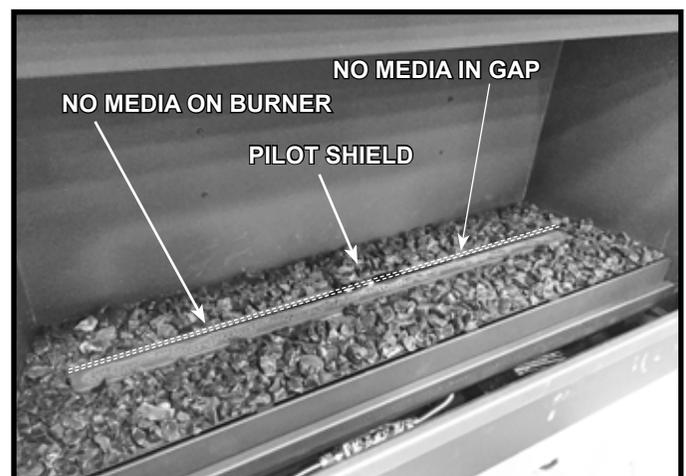

Figure 11.1 Media Placement
1. Place an even layer of glass media around the basepan. Do not place glass media in the gap behind the burner or on the top surface of the burner. See Figure 11.1. This may cause lighting issues, undesirable burner flame, or delayed ignition.